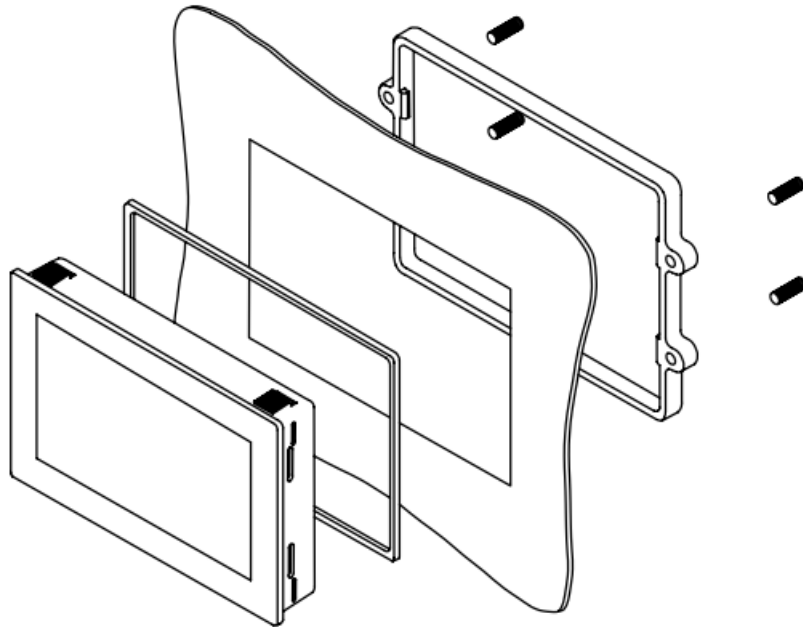

Figure 1
4. Attach the mounting clip from the rear as shown in Figure 1.